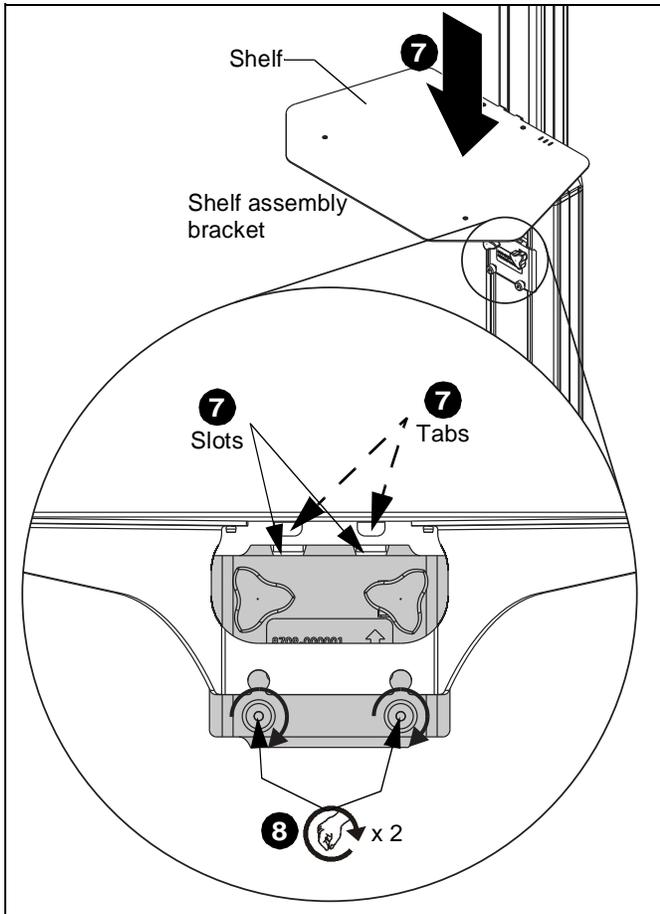

Figure 5
7. Lower shelf from above the bracket assembly, hooking two tabs on back of shelf into two slots in top of bracket assembly. (See Figure 5)